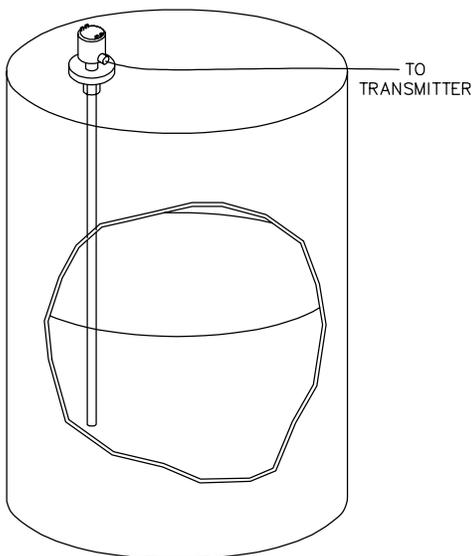

Figure 3-6
3.3.1 Immersion Applications (See Figure 3-6)